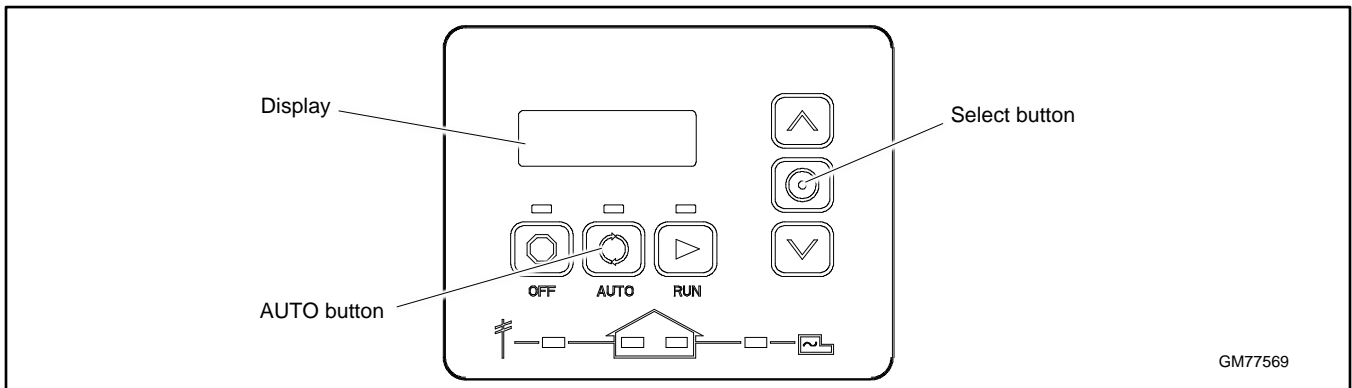
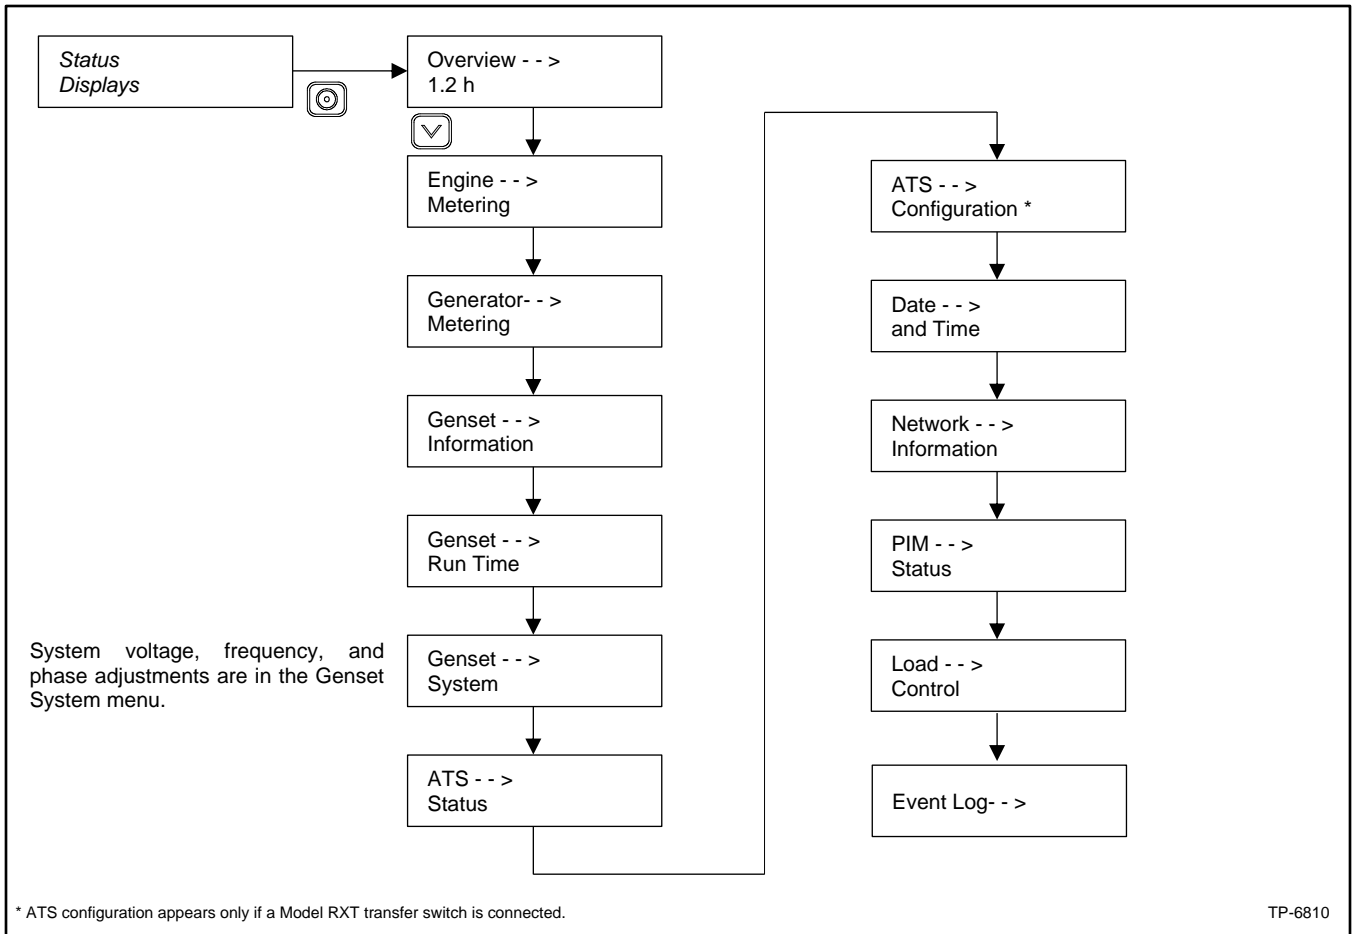

Figure 41 RDC2 Controller User Interface
Figure 42 RDC2 Main Menu
1. Press the Select button to enter the main menu. See Figure 41 and Figure 42. The Overview screen will be displayed.
2. Press the down arrow button to navigate to the Genset System menu. See Figure 42.